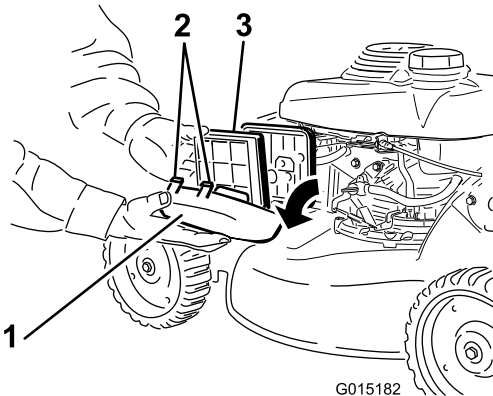

Figure 34
1. Press down on the latch tabs on top of the air cleaner cover and remove the cover (Figure 34).
2. Remove the air filter (Figure 34).